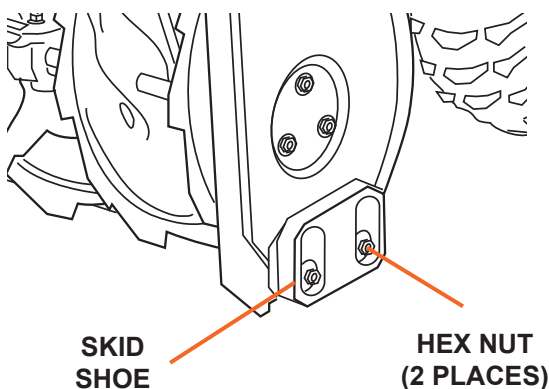

Figure 5
1. Position the skid shoes based on surface conditions. Adjust upward for hard-packed snow. Adjust downward when operating on gravel or crushed rock surfaces. Loosen the two hex nuts that retain the skid shoe in place and move up or down as desired, then retighten the lock nuts (see Figure 5). Repeat for the opposite side of the snow blower.